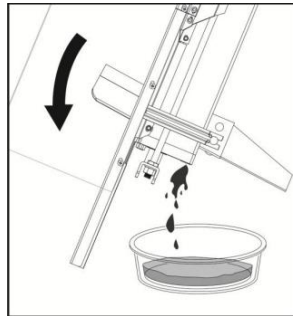

Fig. 11
3. Tilt the log splitter onto the leg support side over a container with a 4-liter capacity to fully drain the hydraulic oil (Fig. 11).